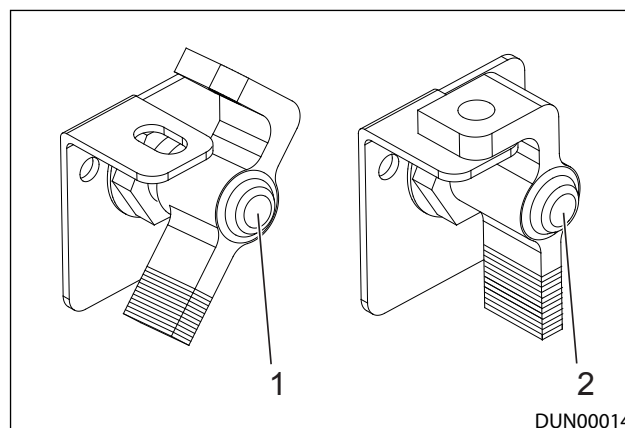

Figure 8.1 - Isolator Switch
3. After 20 seconds, rotate the isolator switch from the "ON" position (Item 1) to the "OFF" position (Item 2), Ref: Figure 8.1.
3. If there are no other locks on, turn the main Isolator switch to the ON position (item 1), Ref: Figure 8.1.